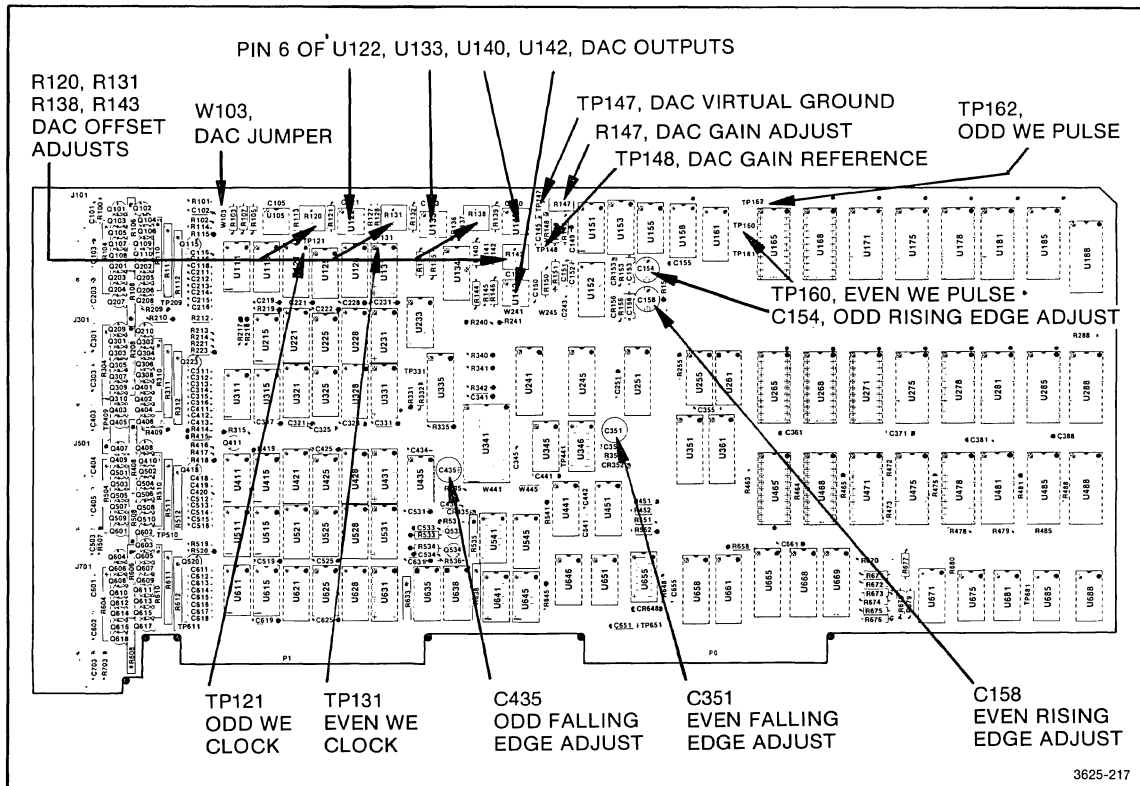

Figure 5-51. 91A32 test point and adjustment locations.
5. Connect the positive lead of the DMM to pin 6 of U122 on the 91A32 (see Figure 5-51). Connect the DMM ground lead to TP147 on the 91A32.
12. Move the positive lead of the DMM to pin 6 of U133. Verify the accuracy of all selectable voltages at this test point (within $\pm 1\%$, ± 5 mV). Repeat the verification at pin 6 of U140 and at pin 6 of U142 (see Figure 5-51). If all the selected voltages are accurate, perform only the 91A32 write-enable adjustment procedure below. If the voltages read are not accurate, perform both the DAC and the write-enable adjustment procedures for the 91A32.
3. On W103 of the 91A32, move the shorting jumper at pins 2 and 3 to pins 1 and 2 (see Figure 5-51).
4. Move the positive lead of the DMM to TP148. Leave the ground lead at TP147 (see Figure 5-51).
4. Attach the probe for channel 1 of the oscilloscope to TP131 on the 91A32. Attach the probe for channel 2 of the oscilloscope to TP160 (see Figure 5-51). The ground leads of the probes can be attached at any ground test point on the 91A32.